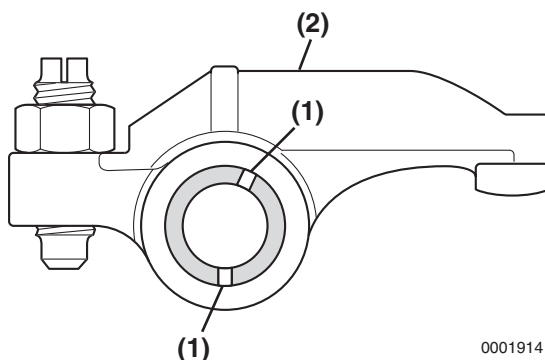

Figure 6-33
Note: Ensure the lubrication holes (**Figure 6-33, (1)**) in the rocker arm shaft are oriented correctly with respect to the rocker arms (**Figure 6-33, (2)**).